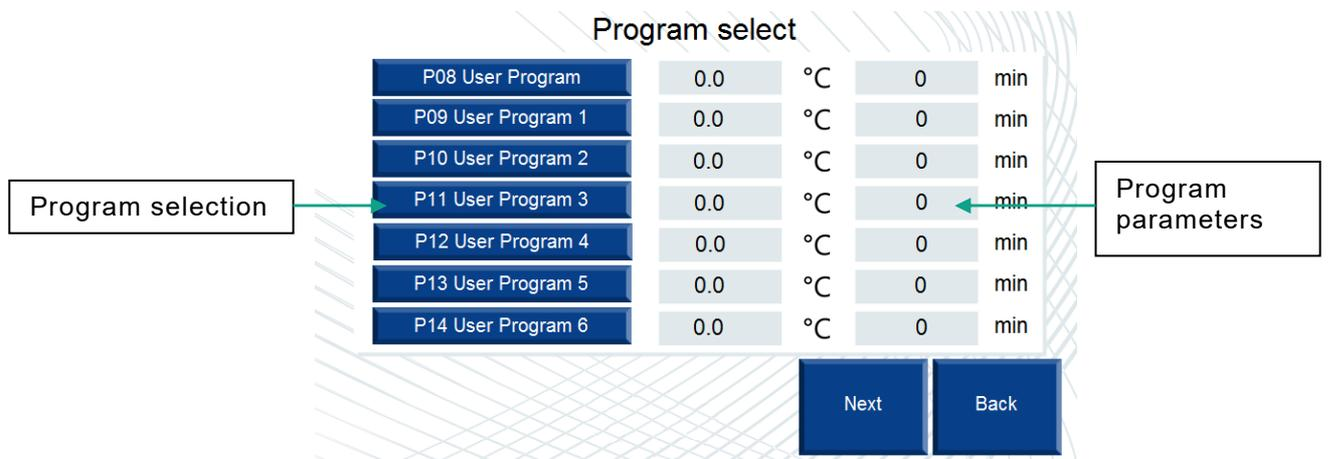

Fig. 10
**Next** – pressing this button navigates to the next program selection screen (Fig. 10).
This screen, as the screen Fig. 10 allows an operator to view the main settings of the sterilization programs, select the desired program and enter the operator number.
**Back** – pressing this button returns to the previous screen (Fig. 10).